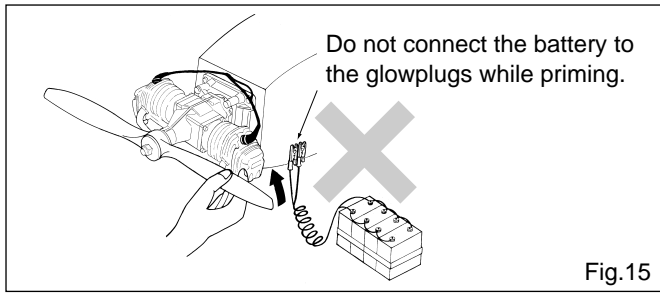

Fig.15
2. Make sure that glowplugs are not connected to the battery. Do not heat the glowplugs while priming. (Fig.15).